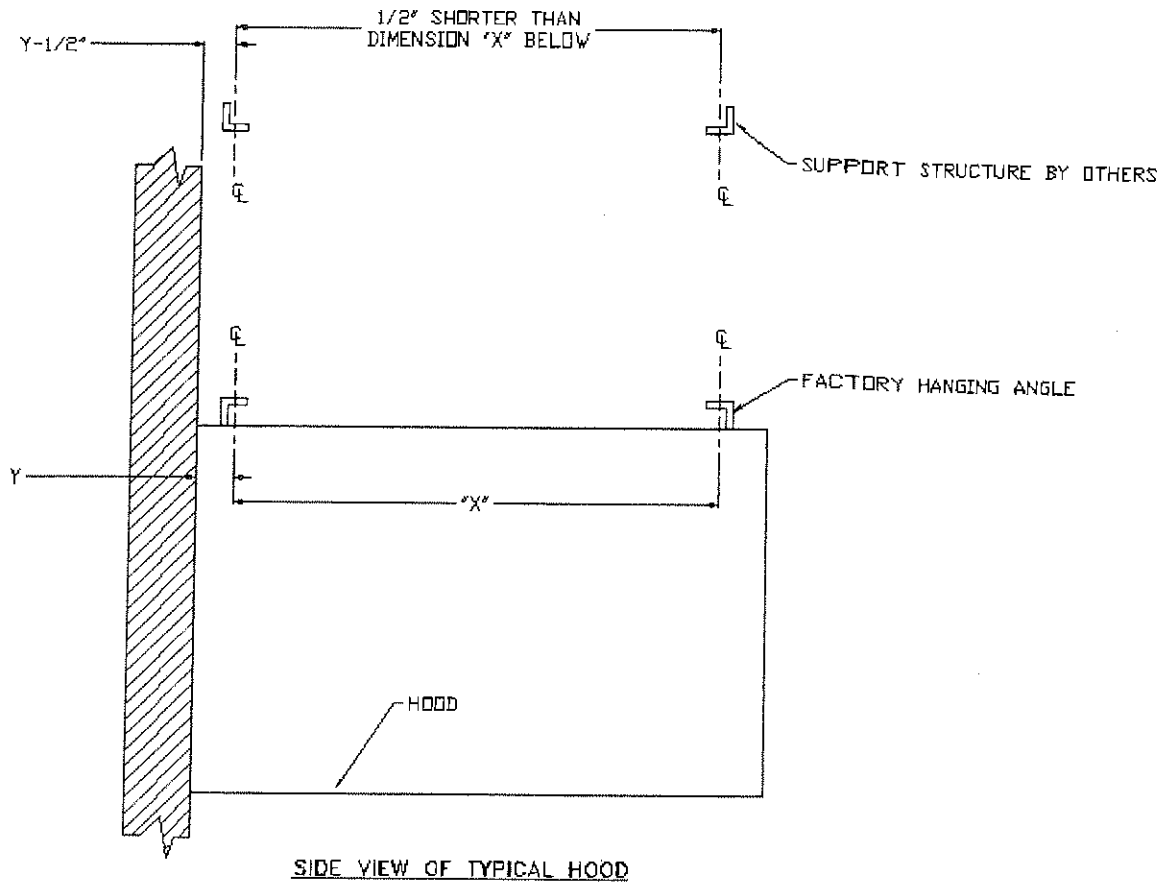

Figure 3
9. The spacing on the hole for the modified support should line up with the mounting bracket on top of the hood. The top hanger should be 1/2" closer to the back wall than the mounting bracket on the hood to pull the hood against the wall. **See Figure 3.** Some hoods are designed for island installations where a wall is not present.